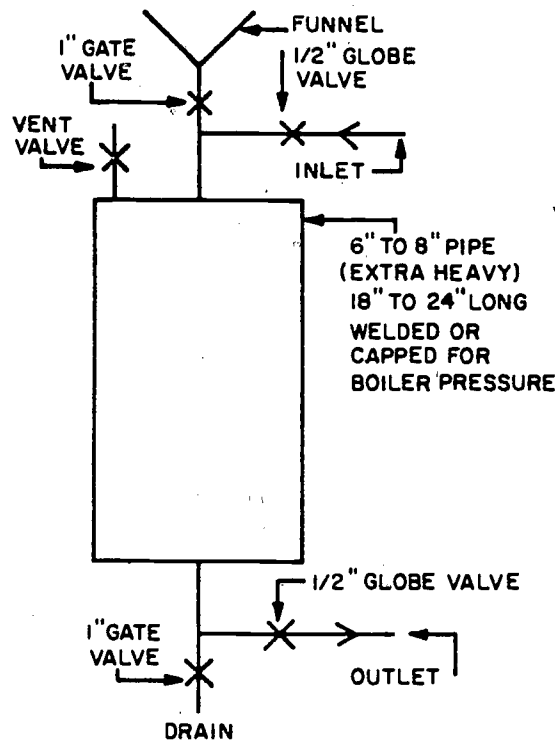

Figure 28. A pot-type chemical feeder.
3. *Pressure-Pot Feeder.* A simple chemical feeder can be fabricated with a piece of 6- to 8-inch pipe 18 to 24 inches long, as shown in figure 28. Both ends of the pipe are sealed either by capping or welding. The fabrication should allow for the application of boiler pressure to the feeder. Suitable valving and a funnel for admission and discharge should also be installed. This type of feeder permits the rapid-shot feed of chemicals to the point of admission.